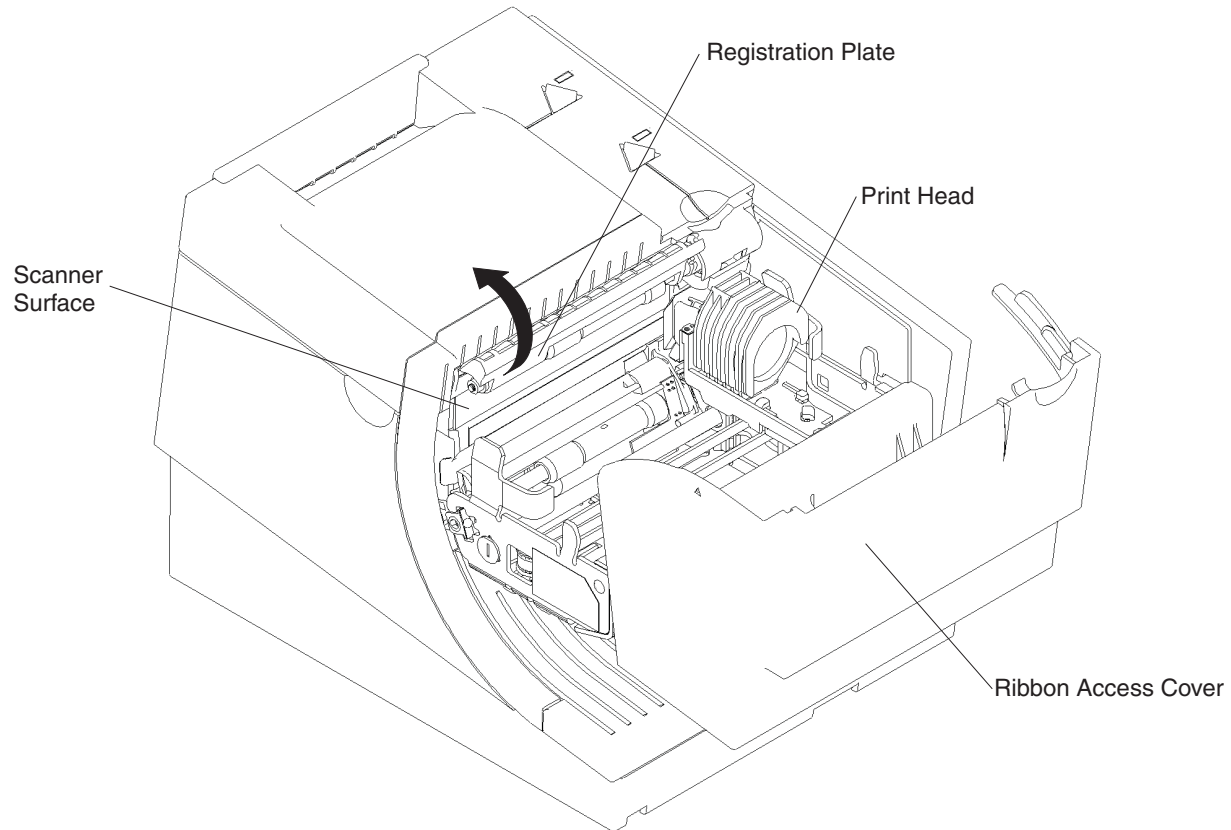

Figure 34. Scanner and print head location (Model TI8, TI9, TG8, TG9)
1. Open the ribbon cover. See Figure 34.
3. Rotate the scanner registration plate 180° up to expose the glass scanner surface. See Figure 34.